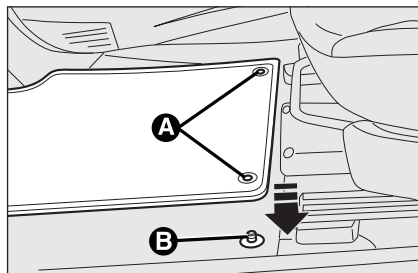

fig. 10
- ☐ position the mat so that the eyelets **A**-fig. 10 correspond to the restraint systems **B** installed on the floor;